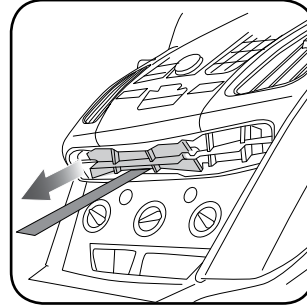

Fig. 1.1
1. Pry off center cap at the bottom of the factory radio bezel to expose two (2) screws. (Fig. 1.1)